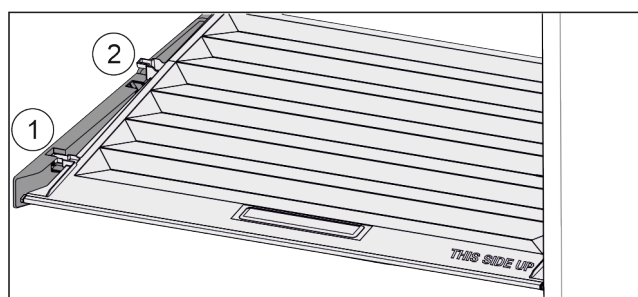

Fig. 156
- Pull the lid up at the front in the retaining parts to the opening Fig. 156 (1).
- Lift from the back and pull it up and out Fig. 156 (2).